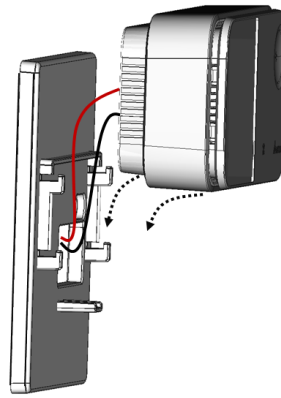

Figure 2
4. As shown in Figure 2, install UNOnext on the wall mount and verify that all four buckles are installed and fixed.